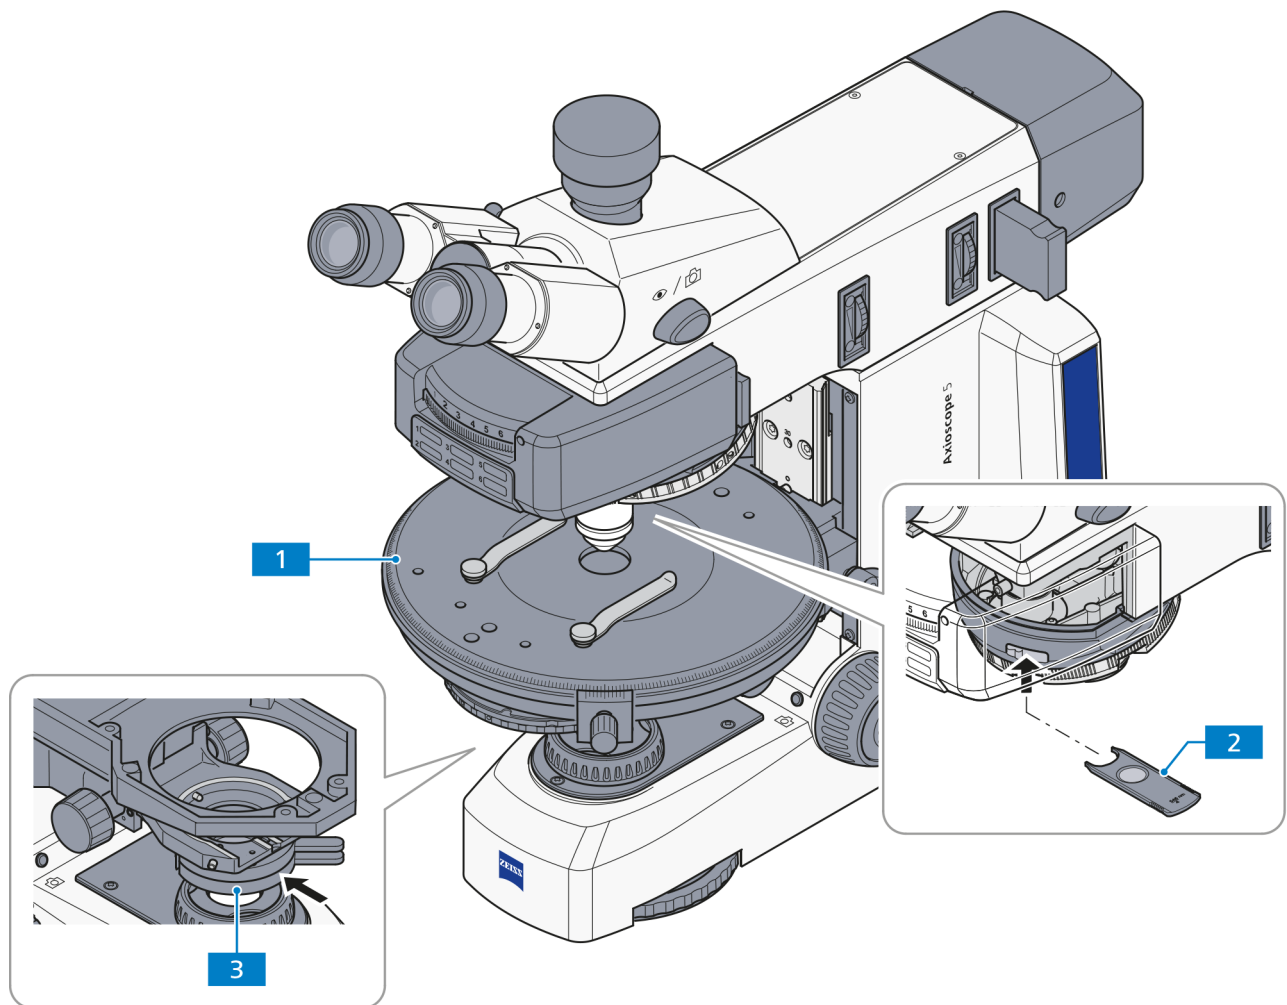

Fig. 4-9 Components for transmitted light polarization
(3) Setting the microscope
- Adjust the microscope as described in section 4.2.1 (3) for transmitted light brightfield microscopy using the KÖHLER method.
- Center the rotary stage Pol (Fig. 4-9/1) (see section 3.1.10.5) and objectives (see section 3.1.10.6).
- Swing the polarizer (Fig. 4-9/3) into the beam path and position it to 0° if you are using a rotatable polarizer.
- Put the analyzer (Fig. 4-9/2) into the slit for the compensator or swing analyzer module on the reflector turret/slider. Because of the crossed polarizers the field of view now appears dark.
(2) Instrumentation
- Rotary stage (Fig. 4-9/1)
- Adjust the microscope as described in section 4.2.1 (3) for transmitted light brightfield microscopy. Make sure the inter-pupillary distance is adjusted correctly on the binocular tube (see section 4.1.1).
- Center the rotary stage Pol (Fig. 4-9/1) and objectives (see sections 3.1.10.5 and 3.1.10.6).
- Swivel the polarizer (Fig. 4-9/3) into the beam path and position it to 0° if you are using a rotatable polarizer.
- Swivel in the analyzer module on the reflector turret (Fig. 4-9/2) (or insert the analyzer slider into the intermediate plate). Because of the crossed polarizers the field of view now appears dark.